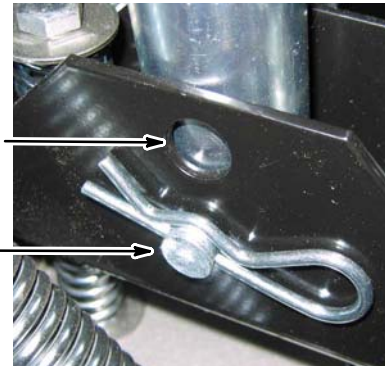

FIG. 8
6. Align tube hole with the correct bracket hole as described below and reinstall the lower clevis pin and cotter pin (Fig. 8).